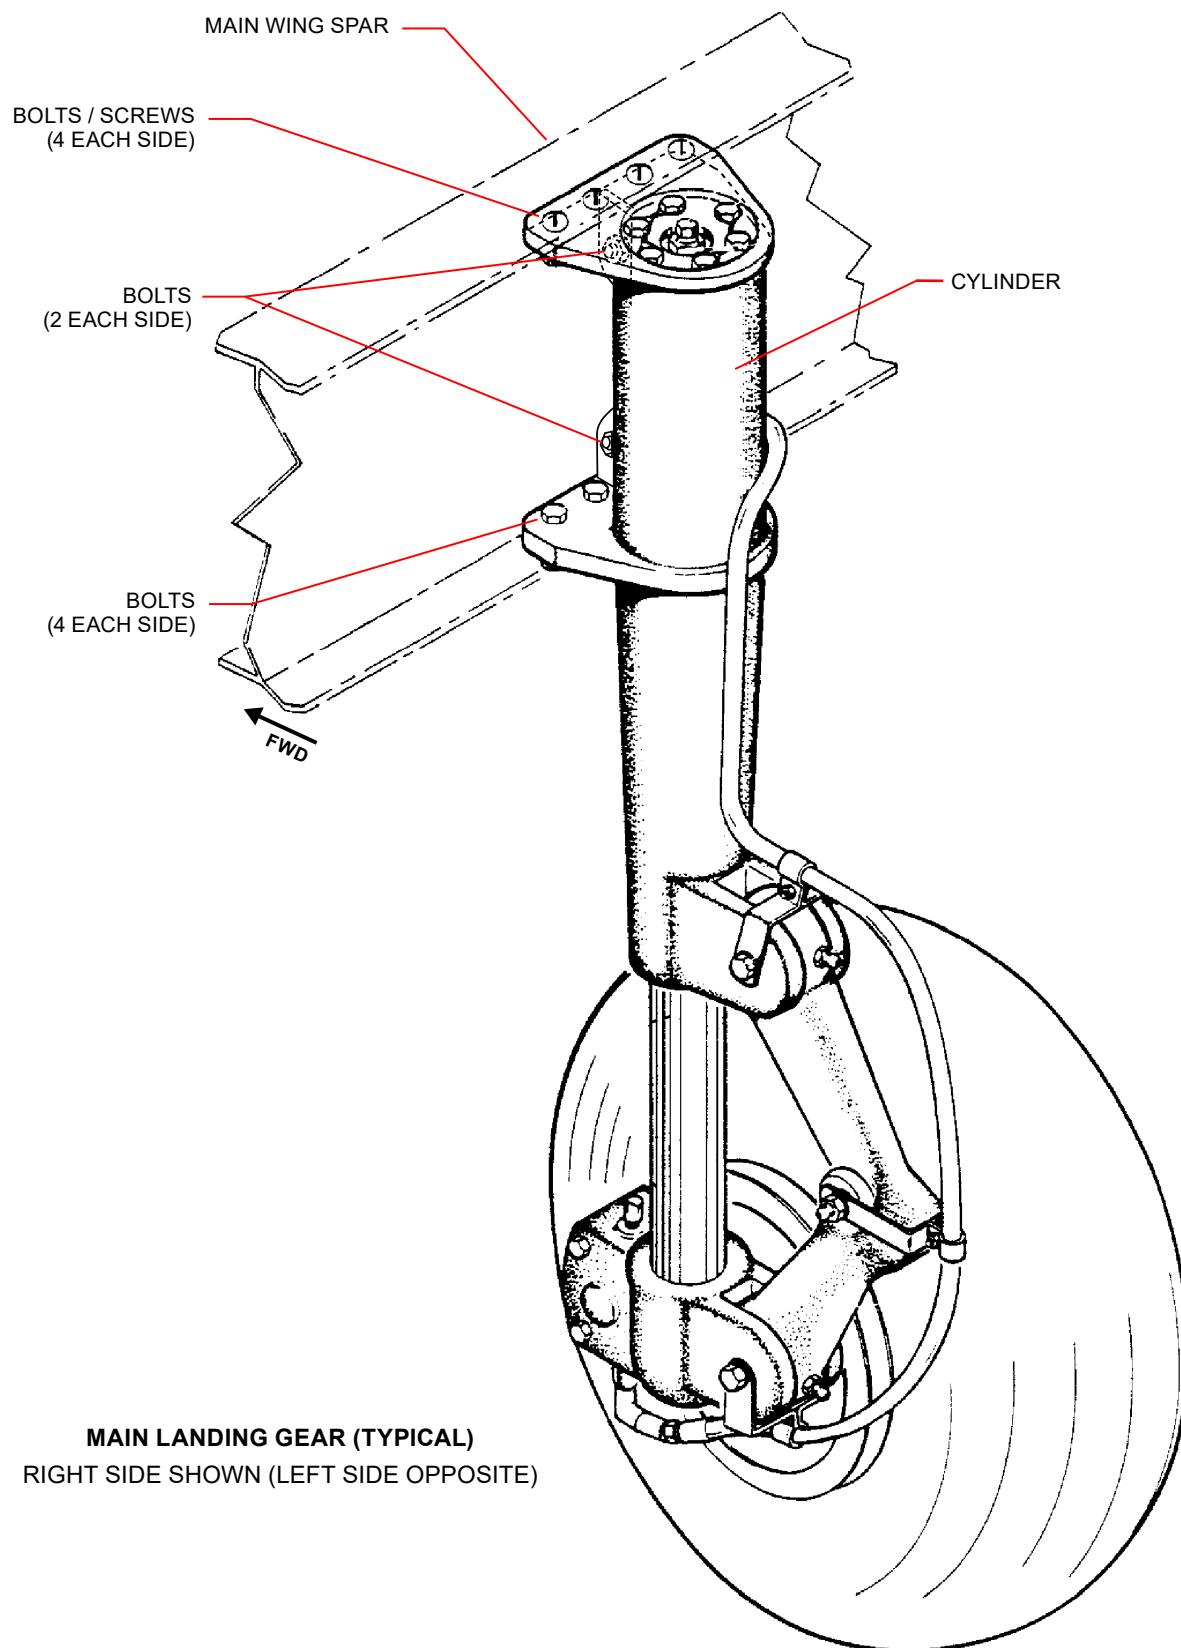

Figure 1
3. Remove the MLG and discard all of the threaded fastener stack ups (which includes screws, bolts, nuts, and washers) that attach the MLG to the main wing spar. (See Figure 1.)